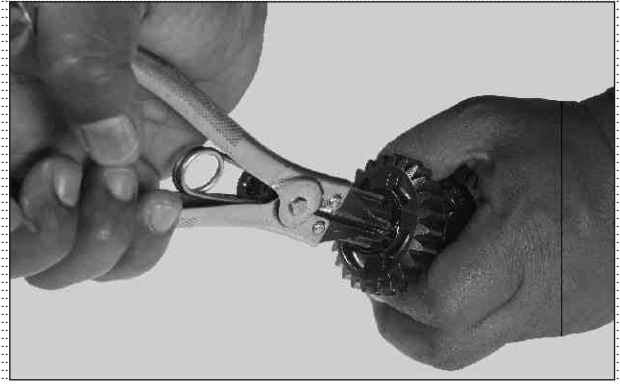

Fig. 3.114
- Remove circlip (20x1.2). (Fig. 3.114)